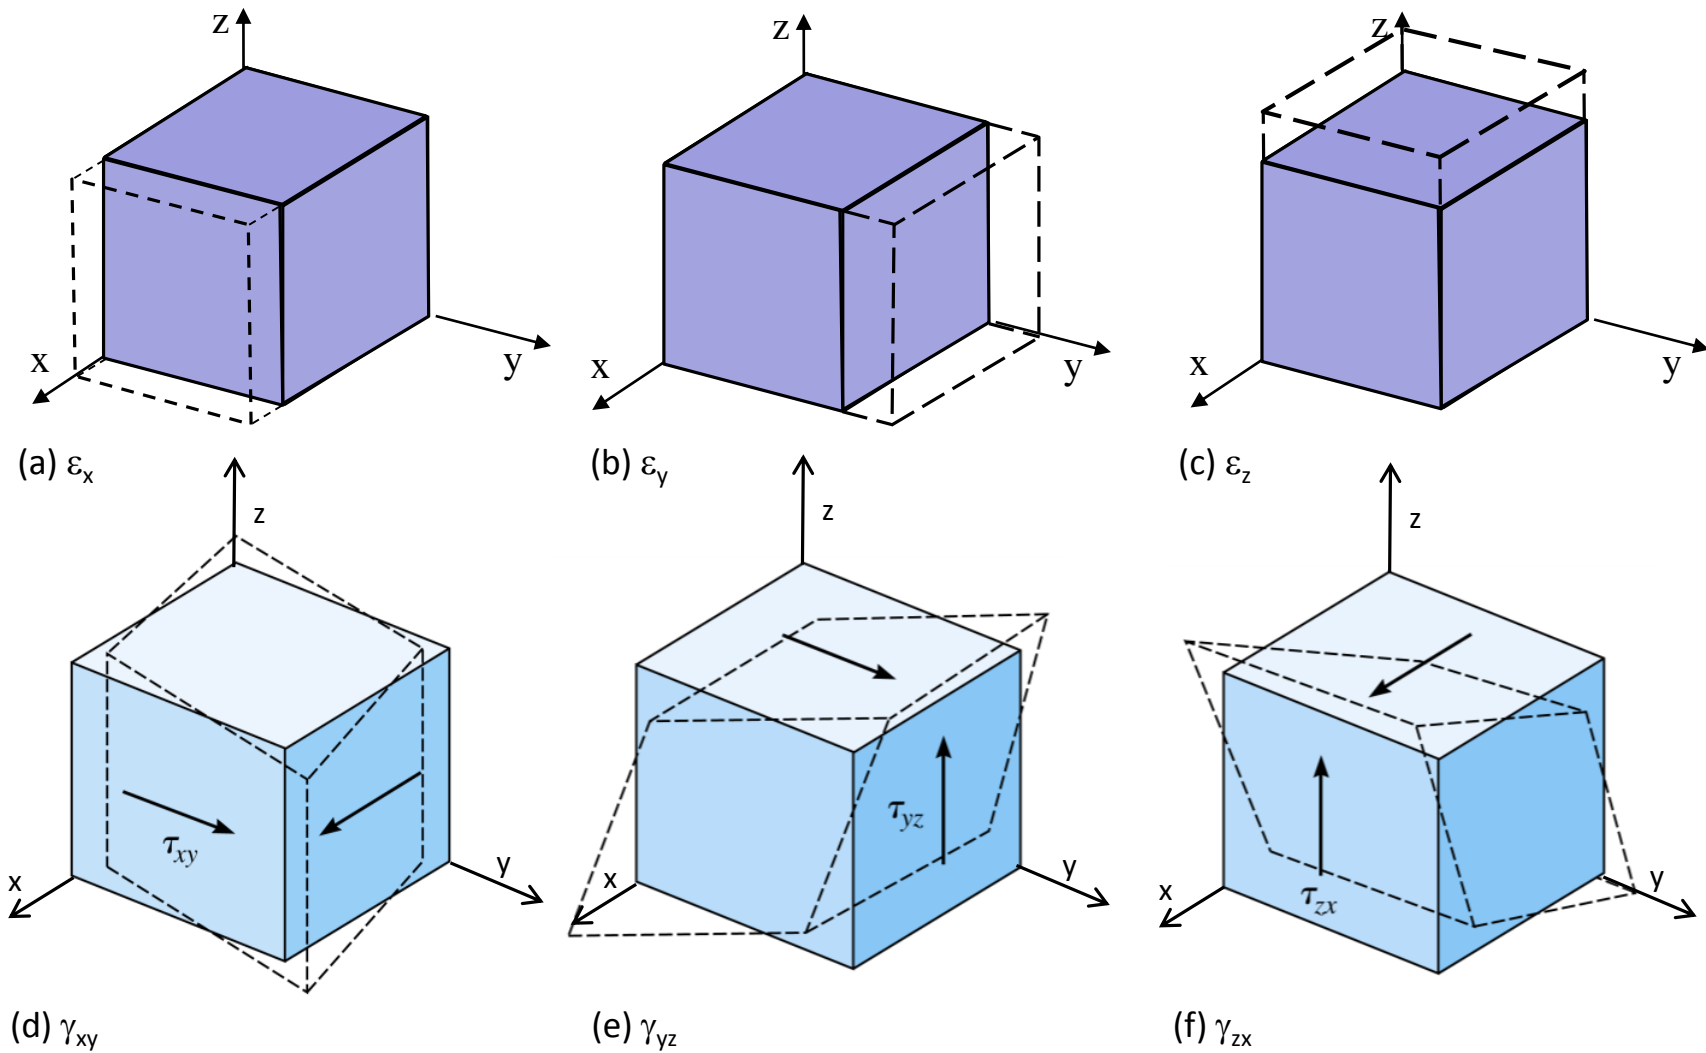

Fig. 6.2. Meaning of the strain tensor components
i.e. the strain tensor (Fig. 6.2)